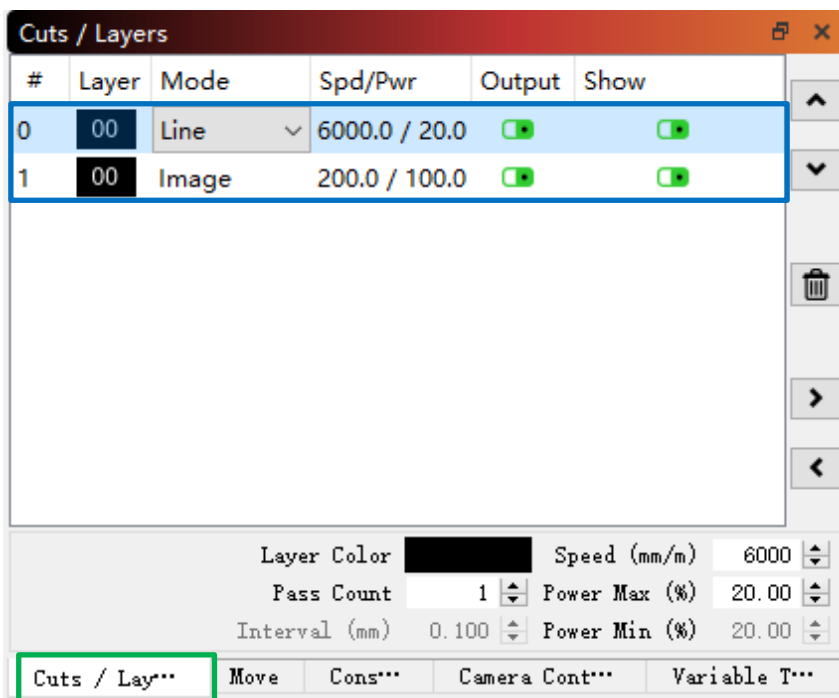

Figure 7.2 Cut/Layer Settings
7.2. After adding pictures, the parameter value setting will appear in the cutting/layer setting [Different patterns can be set (parameter values set for different materials are different)]. (Figure 7.2)